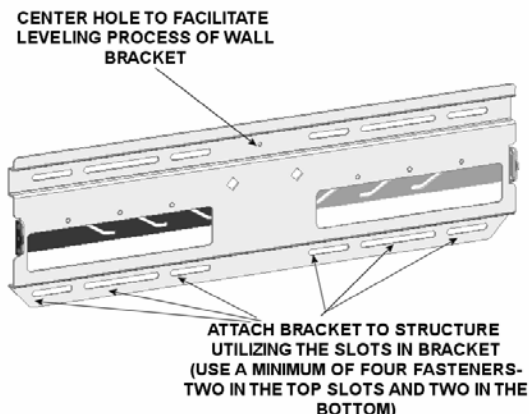
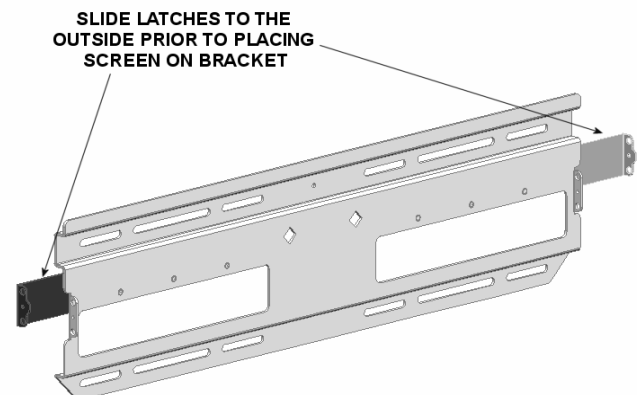

Figure 9. Wall Plate Installation
Figure 10. Slide Latches Outward
2. Using a small nail or screw (not provided) in the center hole, lightly hold wall plate at the mounting location (see Figure 9).
3. Level the wall plate (10) and drill pilot holes for anchoring the wall plate. If drilling into wood studs, use a 15/64" drill bit.
4. Using four 5/16" lag bolts (250) and 5/16" washers (260), install the wall plate on the wall.
5. Slide the latches to the outside (see Figure 10).